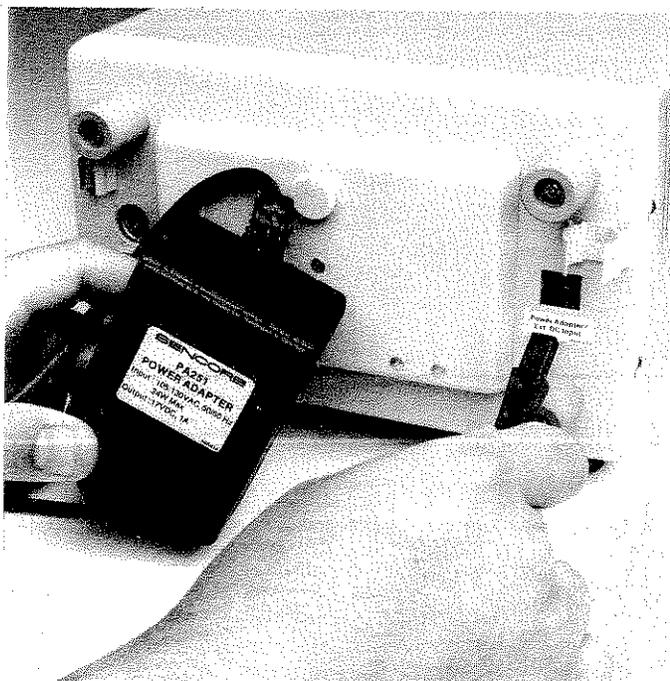

Fig. 6 — Connect the PA251 to the 12 V DC input for AC bench operation and to recharge the optional battery.
For continuous bench operation the LC102 is powered from any standard 105-130V (50-60 Hz) AC line using the PA251 Power Adapter. When 220V AC operation is required, power the LC102 with the optional PA252 220 VAC Power Adapter. Connect the Power Adapter to the POWER IN JACK located on the rear of the LC102, as shown in Figure 6.
2. Connect the power adapter lead to the POWER INPUT JACK on the back of the LC102, as shown in figure 6.